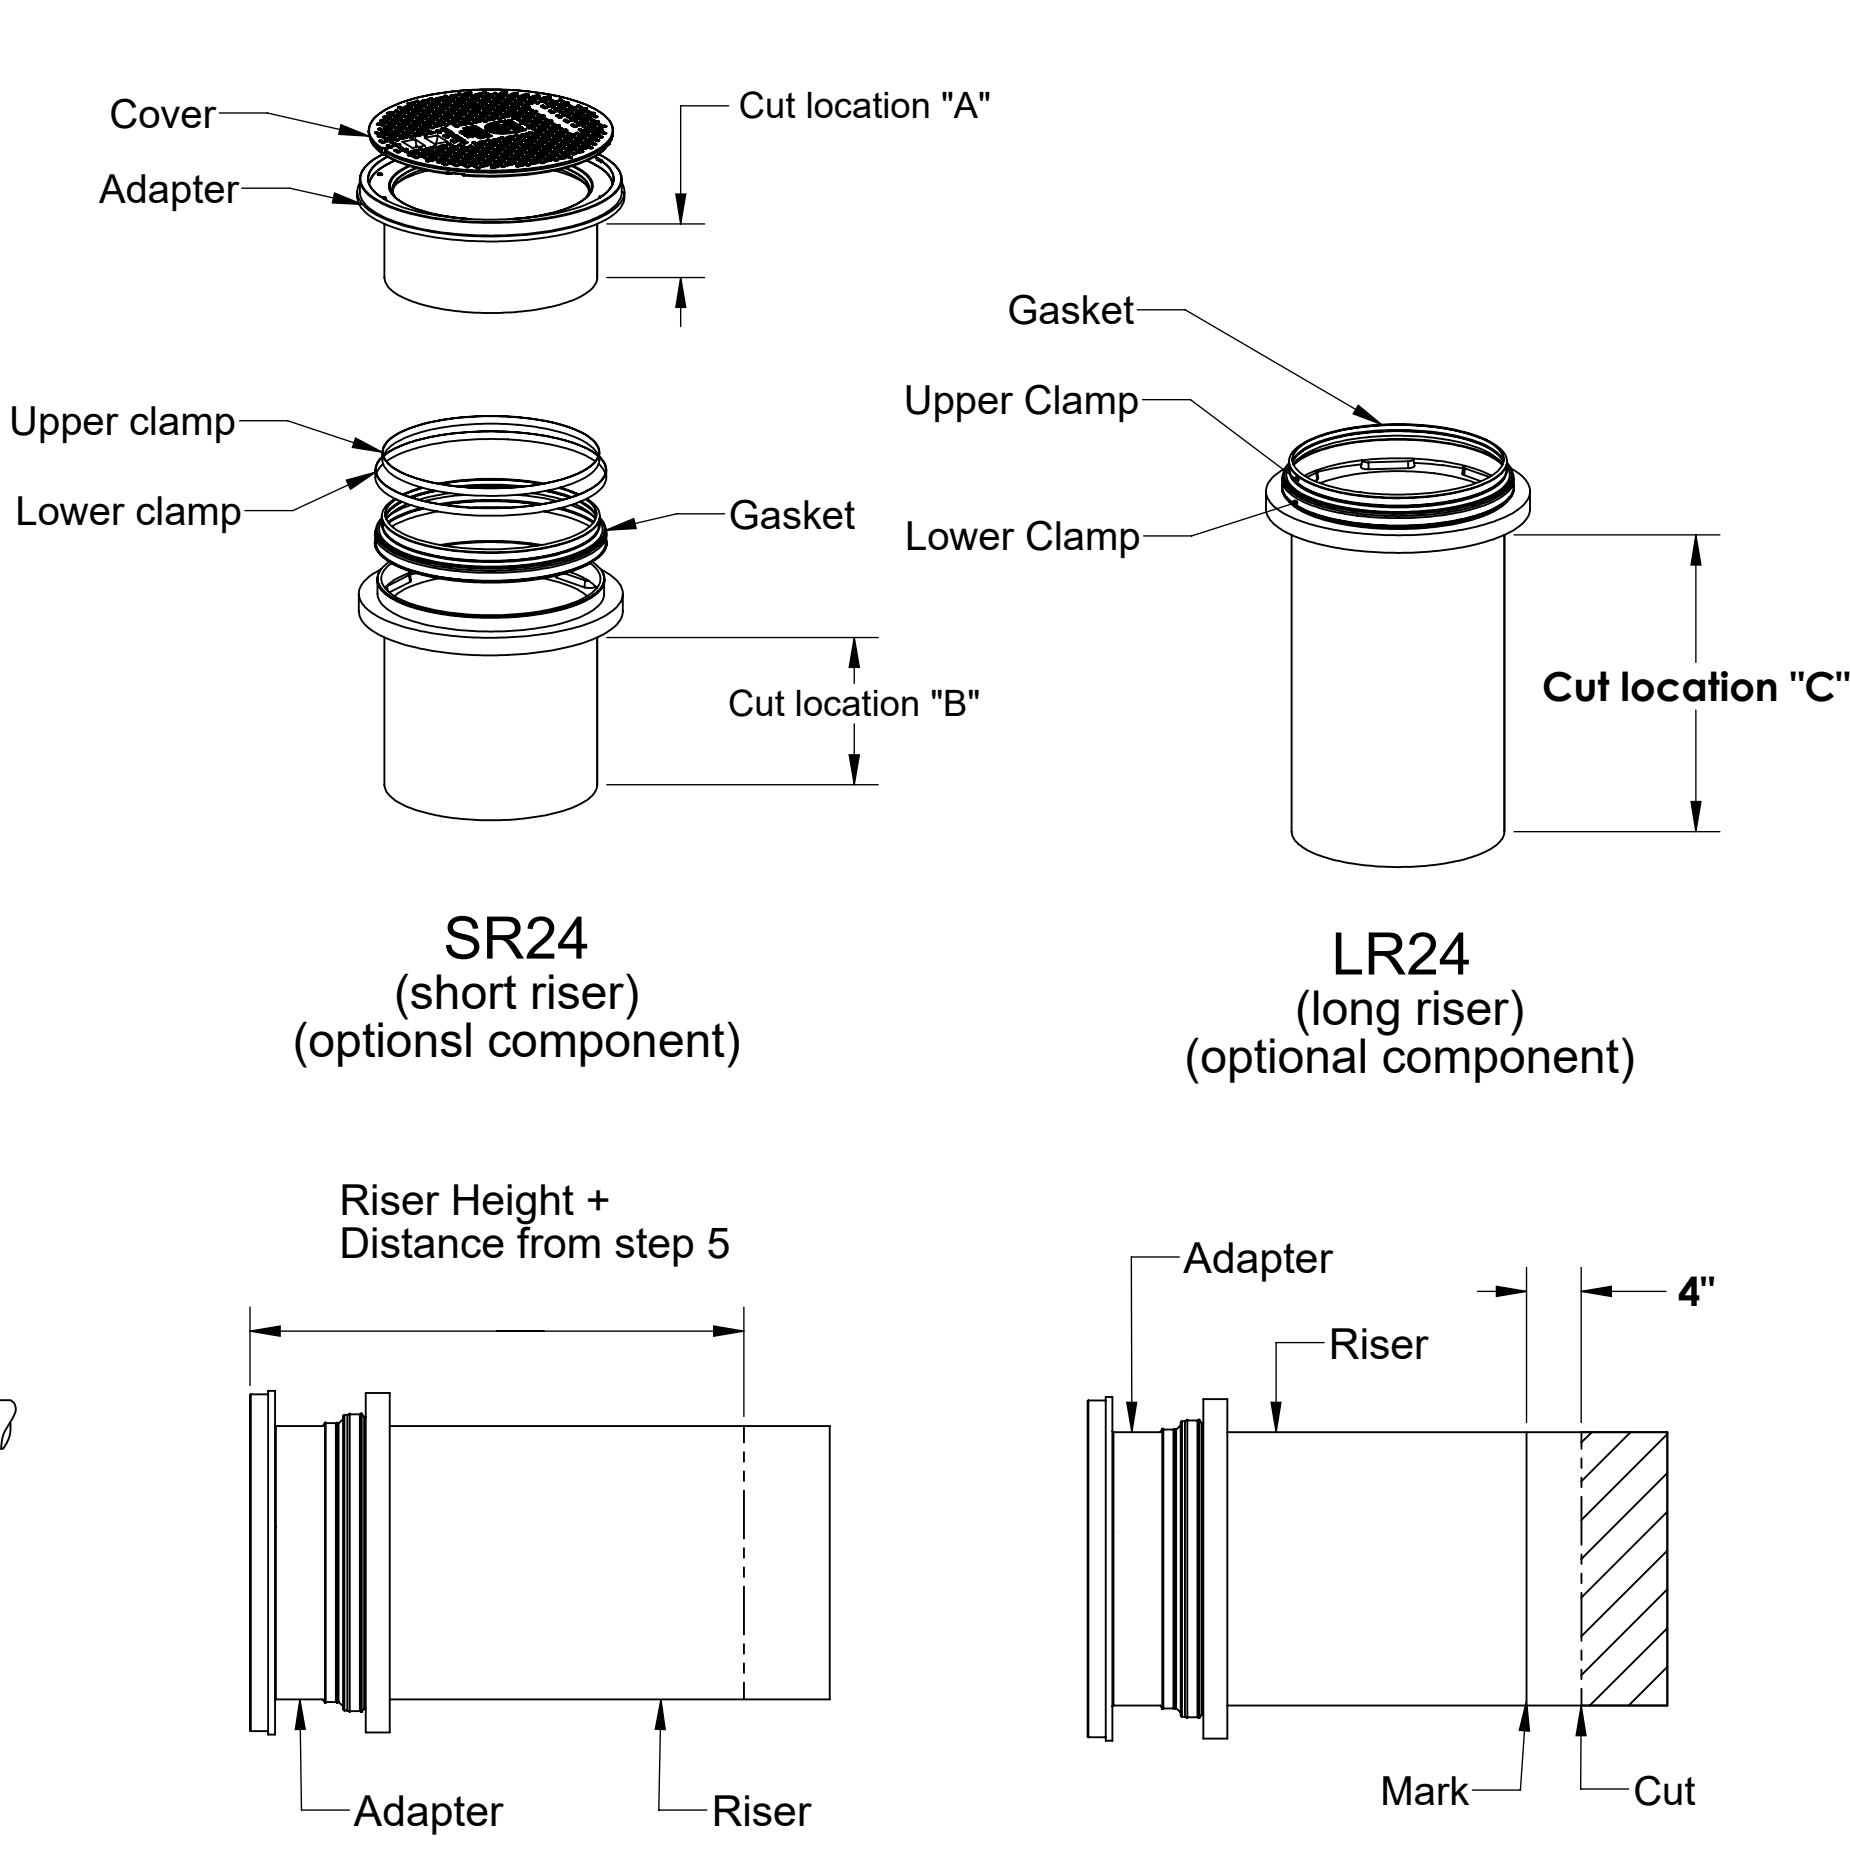

Figure 2
- From the top of the adapter, measure your needed total riser height downward to the sidewall of the riser. Then, add 6" For example, if you have a SI-UPC-1016 and need a 15-1/2" extension, you would measure down from the top of the adapter 21-1/2" (15-1/2" + 6" = 21-1/2"). See Figure 2.